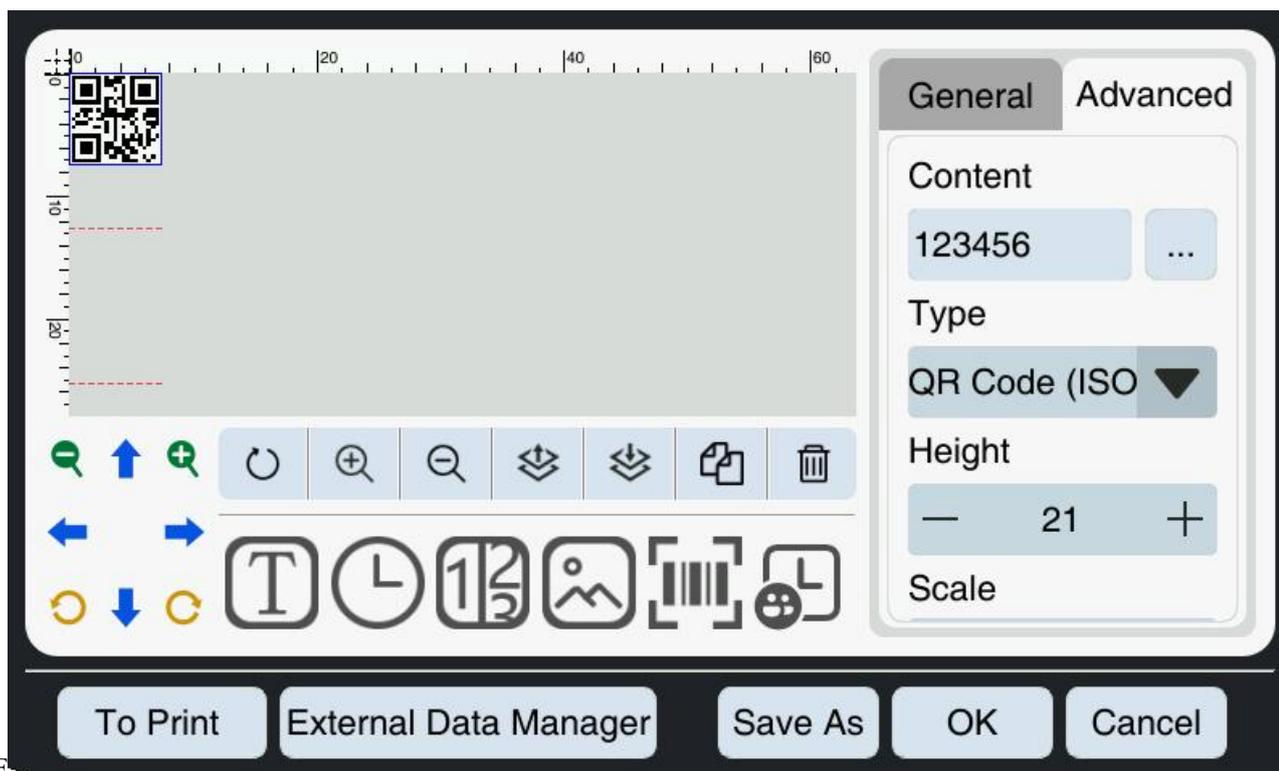

Figure 5-9
1. If you need to print the bar code , click the button, and a default QR code object will appear in the preview area, as shown in Figure 5-9.